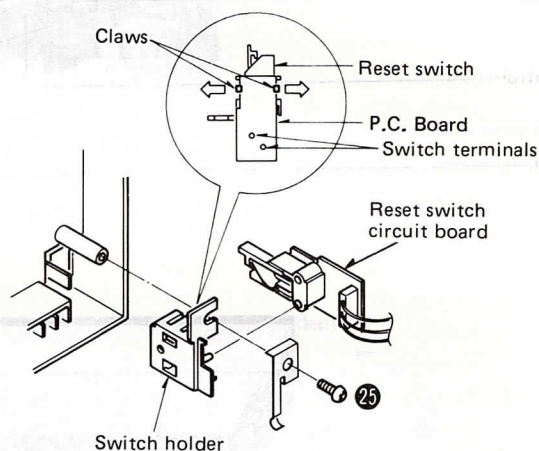

Fig. 11
2. Remove the switch holder setscrew. (Fig. 11: 25)